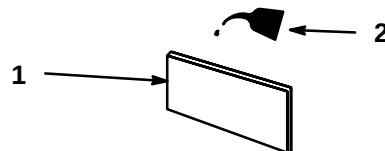

Figure 24
- C. Soak element in new engine oil. (Fig. 24). Squeeze the element to remove excess oil.